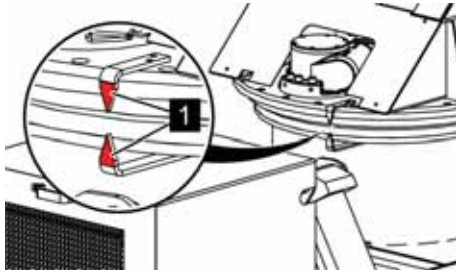

Fig. 68: Red arrows
5. ➤ Swivel the platform in the direction of transport position (☞ Chapter 6.10 'Operating the machine' on page 95) until both red arrows (Fig. 68/1) meet.